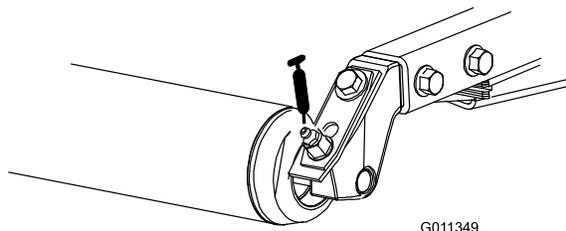

Figure 46
- Rear roller bearings (2 per cutting unit) (Figure 46)